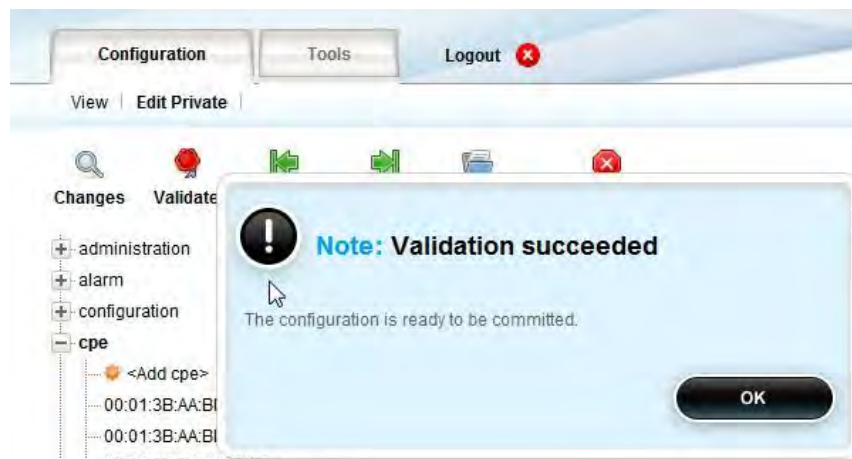

Figure 99 Add Subscriber CPE Validation
- Once the Subscriber options have been selected, the User can then Validate the changes. The User simply selects the Validate command button. A window indicating whether the Validation is successful or not will appear (Figure 99). If successful, then the User has to select the OK command button.